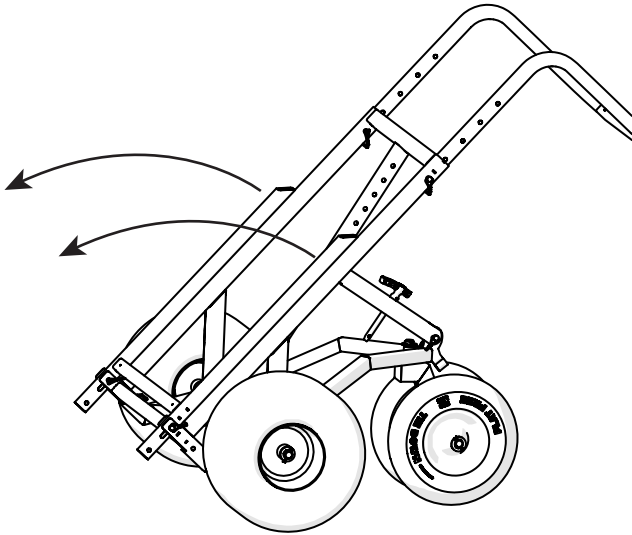

Fig. 4-1
2. Lower the pallet lifting forks assembly downward as shown in Fig. 4-1.